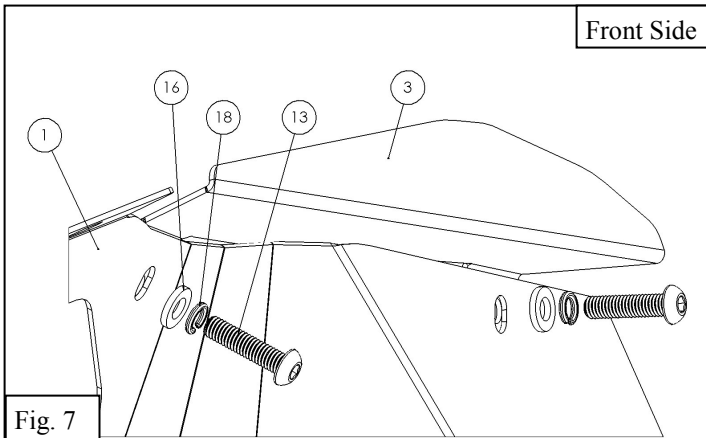

Fig. 7
10. Attach the Cover Panel (3) to the Front Inner Fender Assembly (1) using the supplied M6 hardware (13,11,16,18) and tighten hardware to 5-7 ft-lbs. See **Figures 7 & 8**.